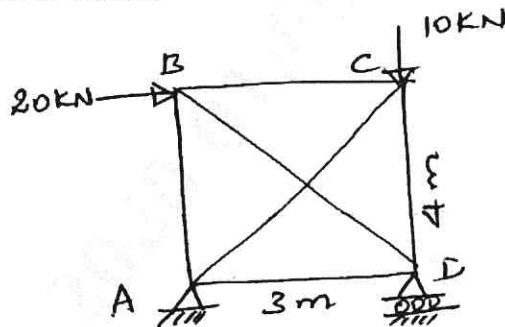

Fig.Q8
- 8 Using the flexibility method, analyze the pin-jointer frame in Fig.Q8. The cross-sectional areas  $A$  and  $E$  for all members is same.